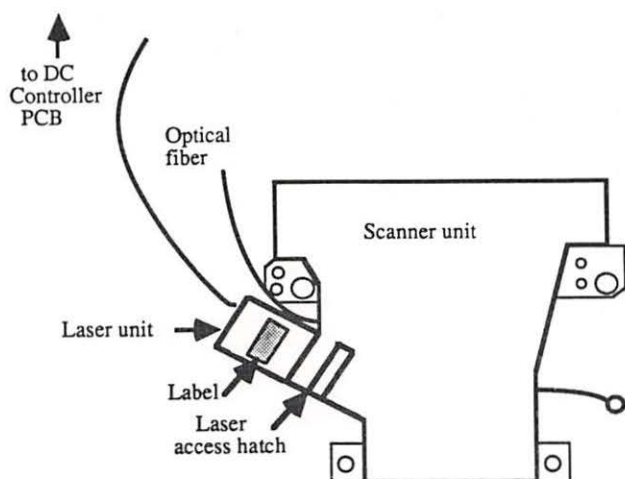

FIGURE 3-1
3. Open the laser access hatch on the scanner unit. (See Figure 3-1.)